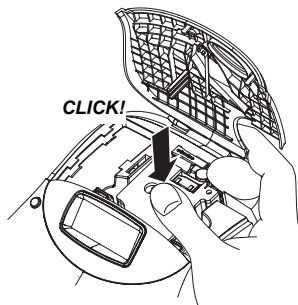

Figure 5
3. Insert the cassette with the label and ribbon positioned between the print head and pinch roller. See Figure 5.